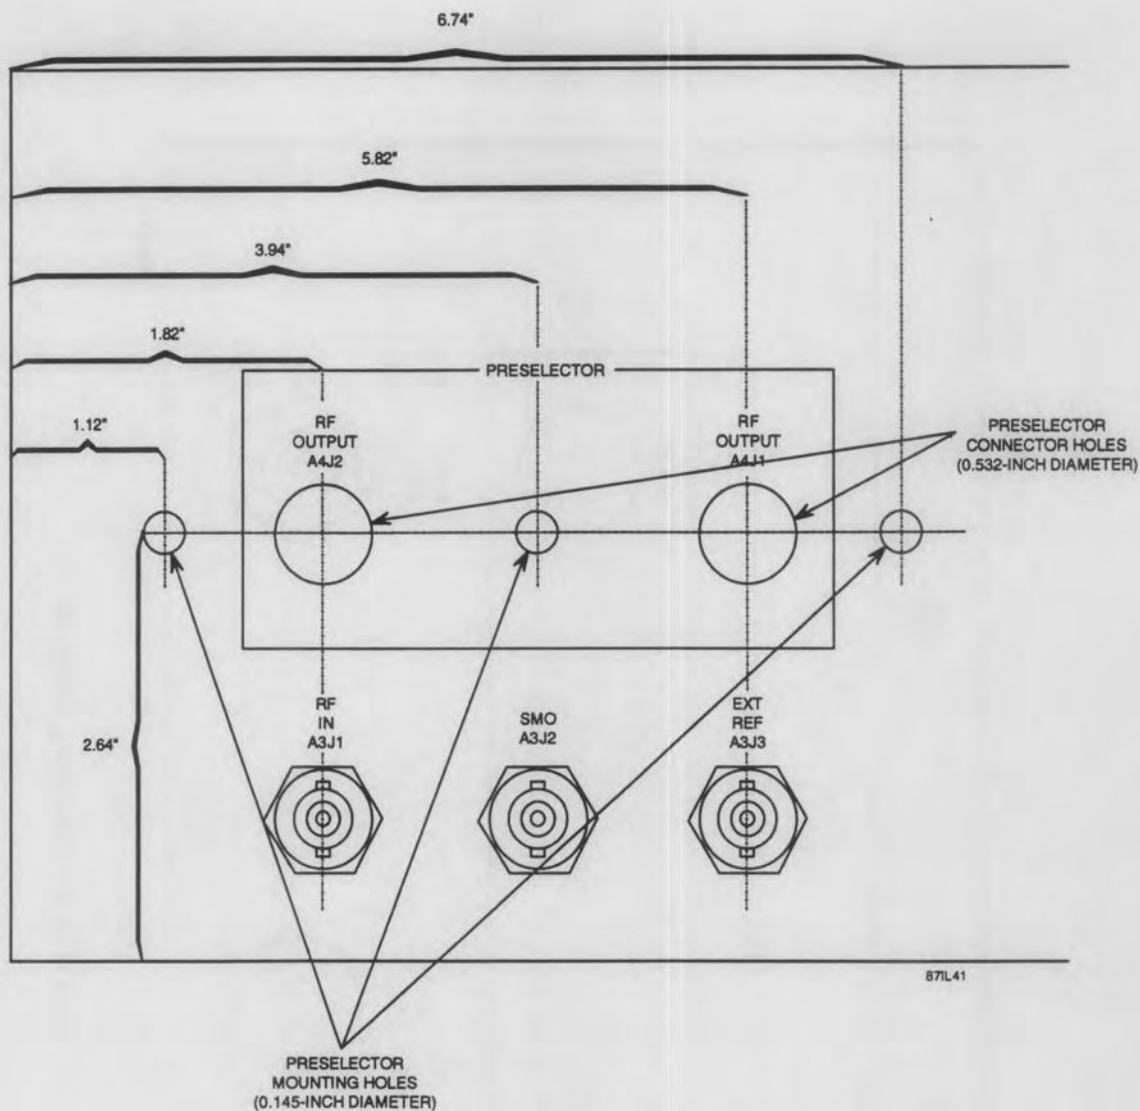

Figure B-1. WJ-8711 Rear Panel (Left Side) Showing Locations of Preselector Mounting and Connector Holes
When installed, all WJ-8711/PRE option external connectors are located on the rear panel of the WJ-8711. **Table B-3** lists these connectors and provides a brief description of each. **Figure B-1** shows the location of these connectors.
4. WJ-8711s (serial numbers 688 and above) have two 0.532-inch diameter preselector connector holes and three 0.145-inch diameter preselector mounting holes as shown in Figure B-1. Earlier WJ-8711s do not have these holes. If the WJ-8711 does not have these holes, use the information in **Figure B-1**, or the template in **Figure B-2**, to measure and mark the necessary WJ-8711 rear panel.
8. Lower the WJ-8711/PRE Suboctave Preselector assembly onto the standoffs, while ensuring that connectors A4J1 and A4J2 extend through the preselector connector holes (**Figure B-1**). Secure the preselector assembly to the standoffs using four of the provided screws and associated lock washers and flat washers. When installing the screws, ensure that a lock washer and a flat washer is installed between the screw and the preselector assembly.
9. Secure the preselector assembly to the rear panel of the WJ-8711 through the preselector mounting holes (**Figure B-1**) using three of the provided screws and associated lock washers.
16. Affix the Rear Panel Preselector Decal (**Figure B-4**) to the WJ-8711 rear panel as shown in **Figure B-1**.